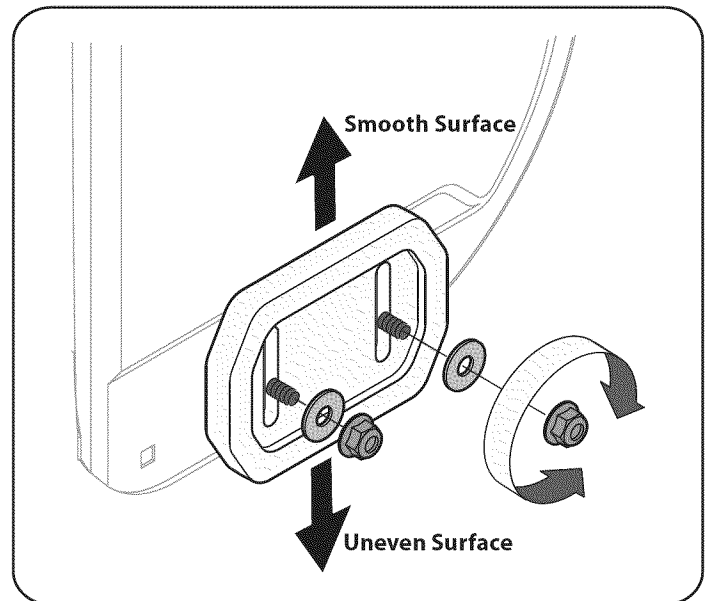

Figure 9
- For close snow removal on a smooth surface, raise skid shoes higher on the auger housing. Refer to Figure 9.
1. Loosen the four hex nuts (two on each side) and carriage bolts. Move skid shoes to desired position. See Figure 9.